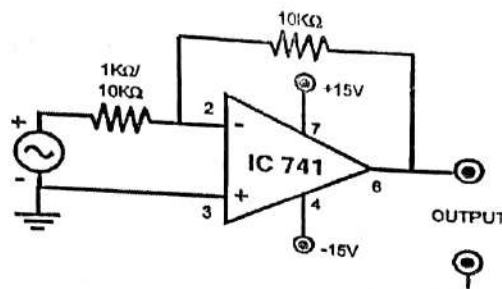

Figure 3. Frequency Response
1. Connect the circuit as shown in Figure 3 i.e. connect audio frequency sinewave generator across input of the circuit. Set the output of generator to 2V P-P amplitude, 10 Hz frequency.